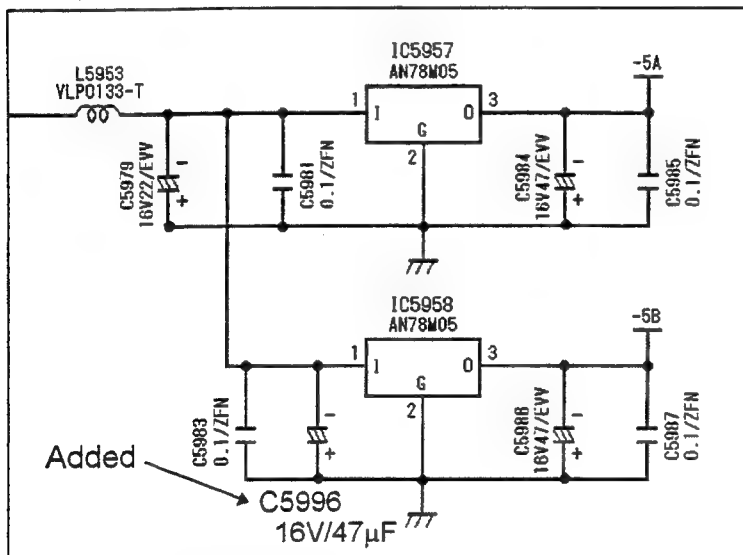

Fig. 3 Page 2-173 (E-7) - AJ-D750
- 2). Add a capacitor C5996 (16V/47 μ F) between terminals G (plus side) and I (minus side) of IC5958 on the component side as shown in figures 3 and 4.